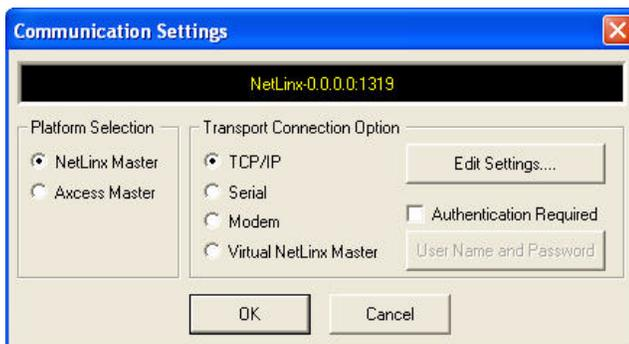

FIG. 24 Communications Settings dialog
4. Click the **Communications Settings** button to open the Communications Settings dialog (FIG. 24).